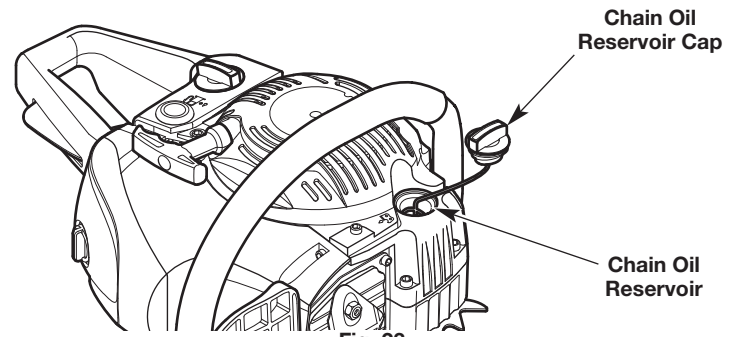

Fig. 23
3. Unscrew the chain oil reservoir cap (Fig. 23).